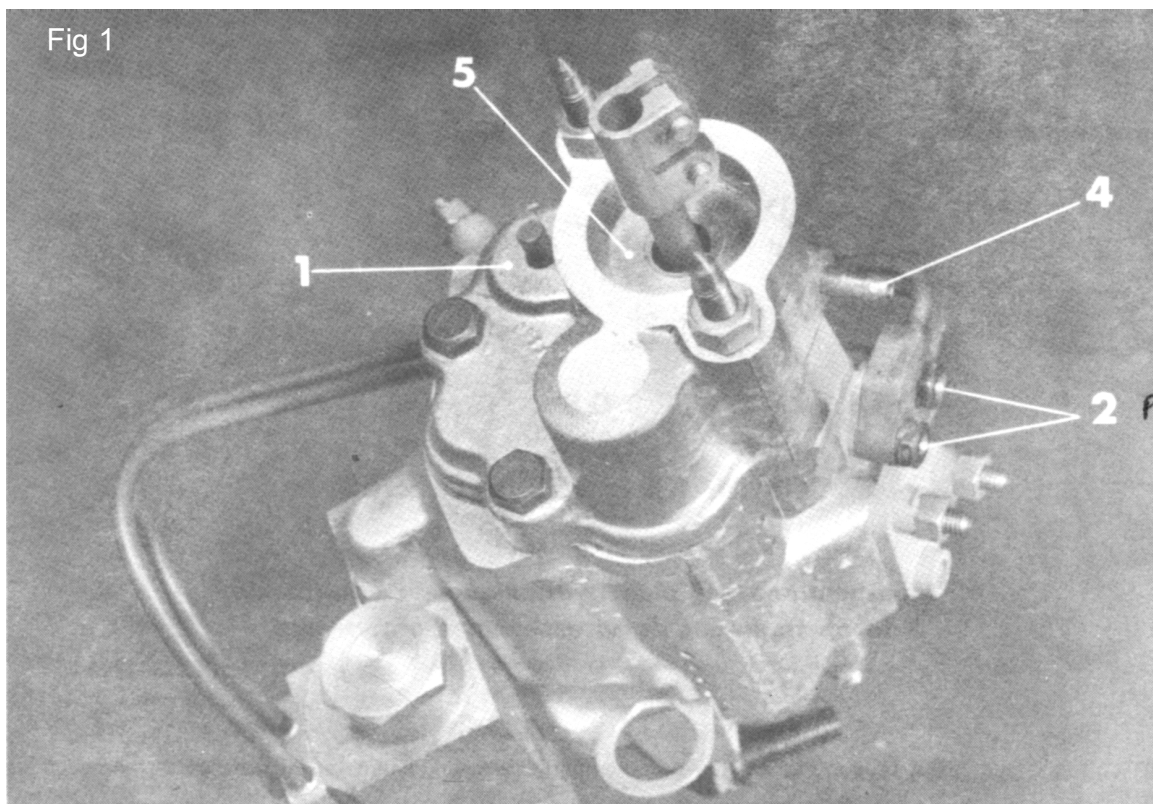

Fig 2
- Fastening the front cover (3 fig.2) at six points instead of four.